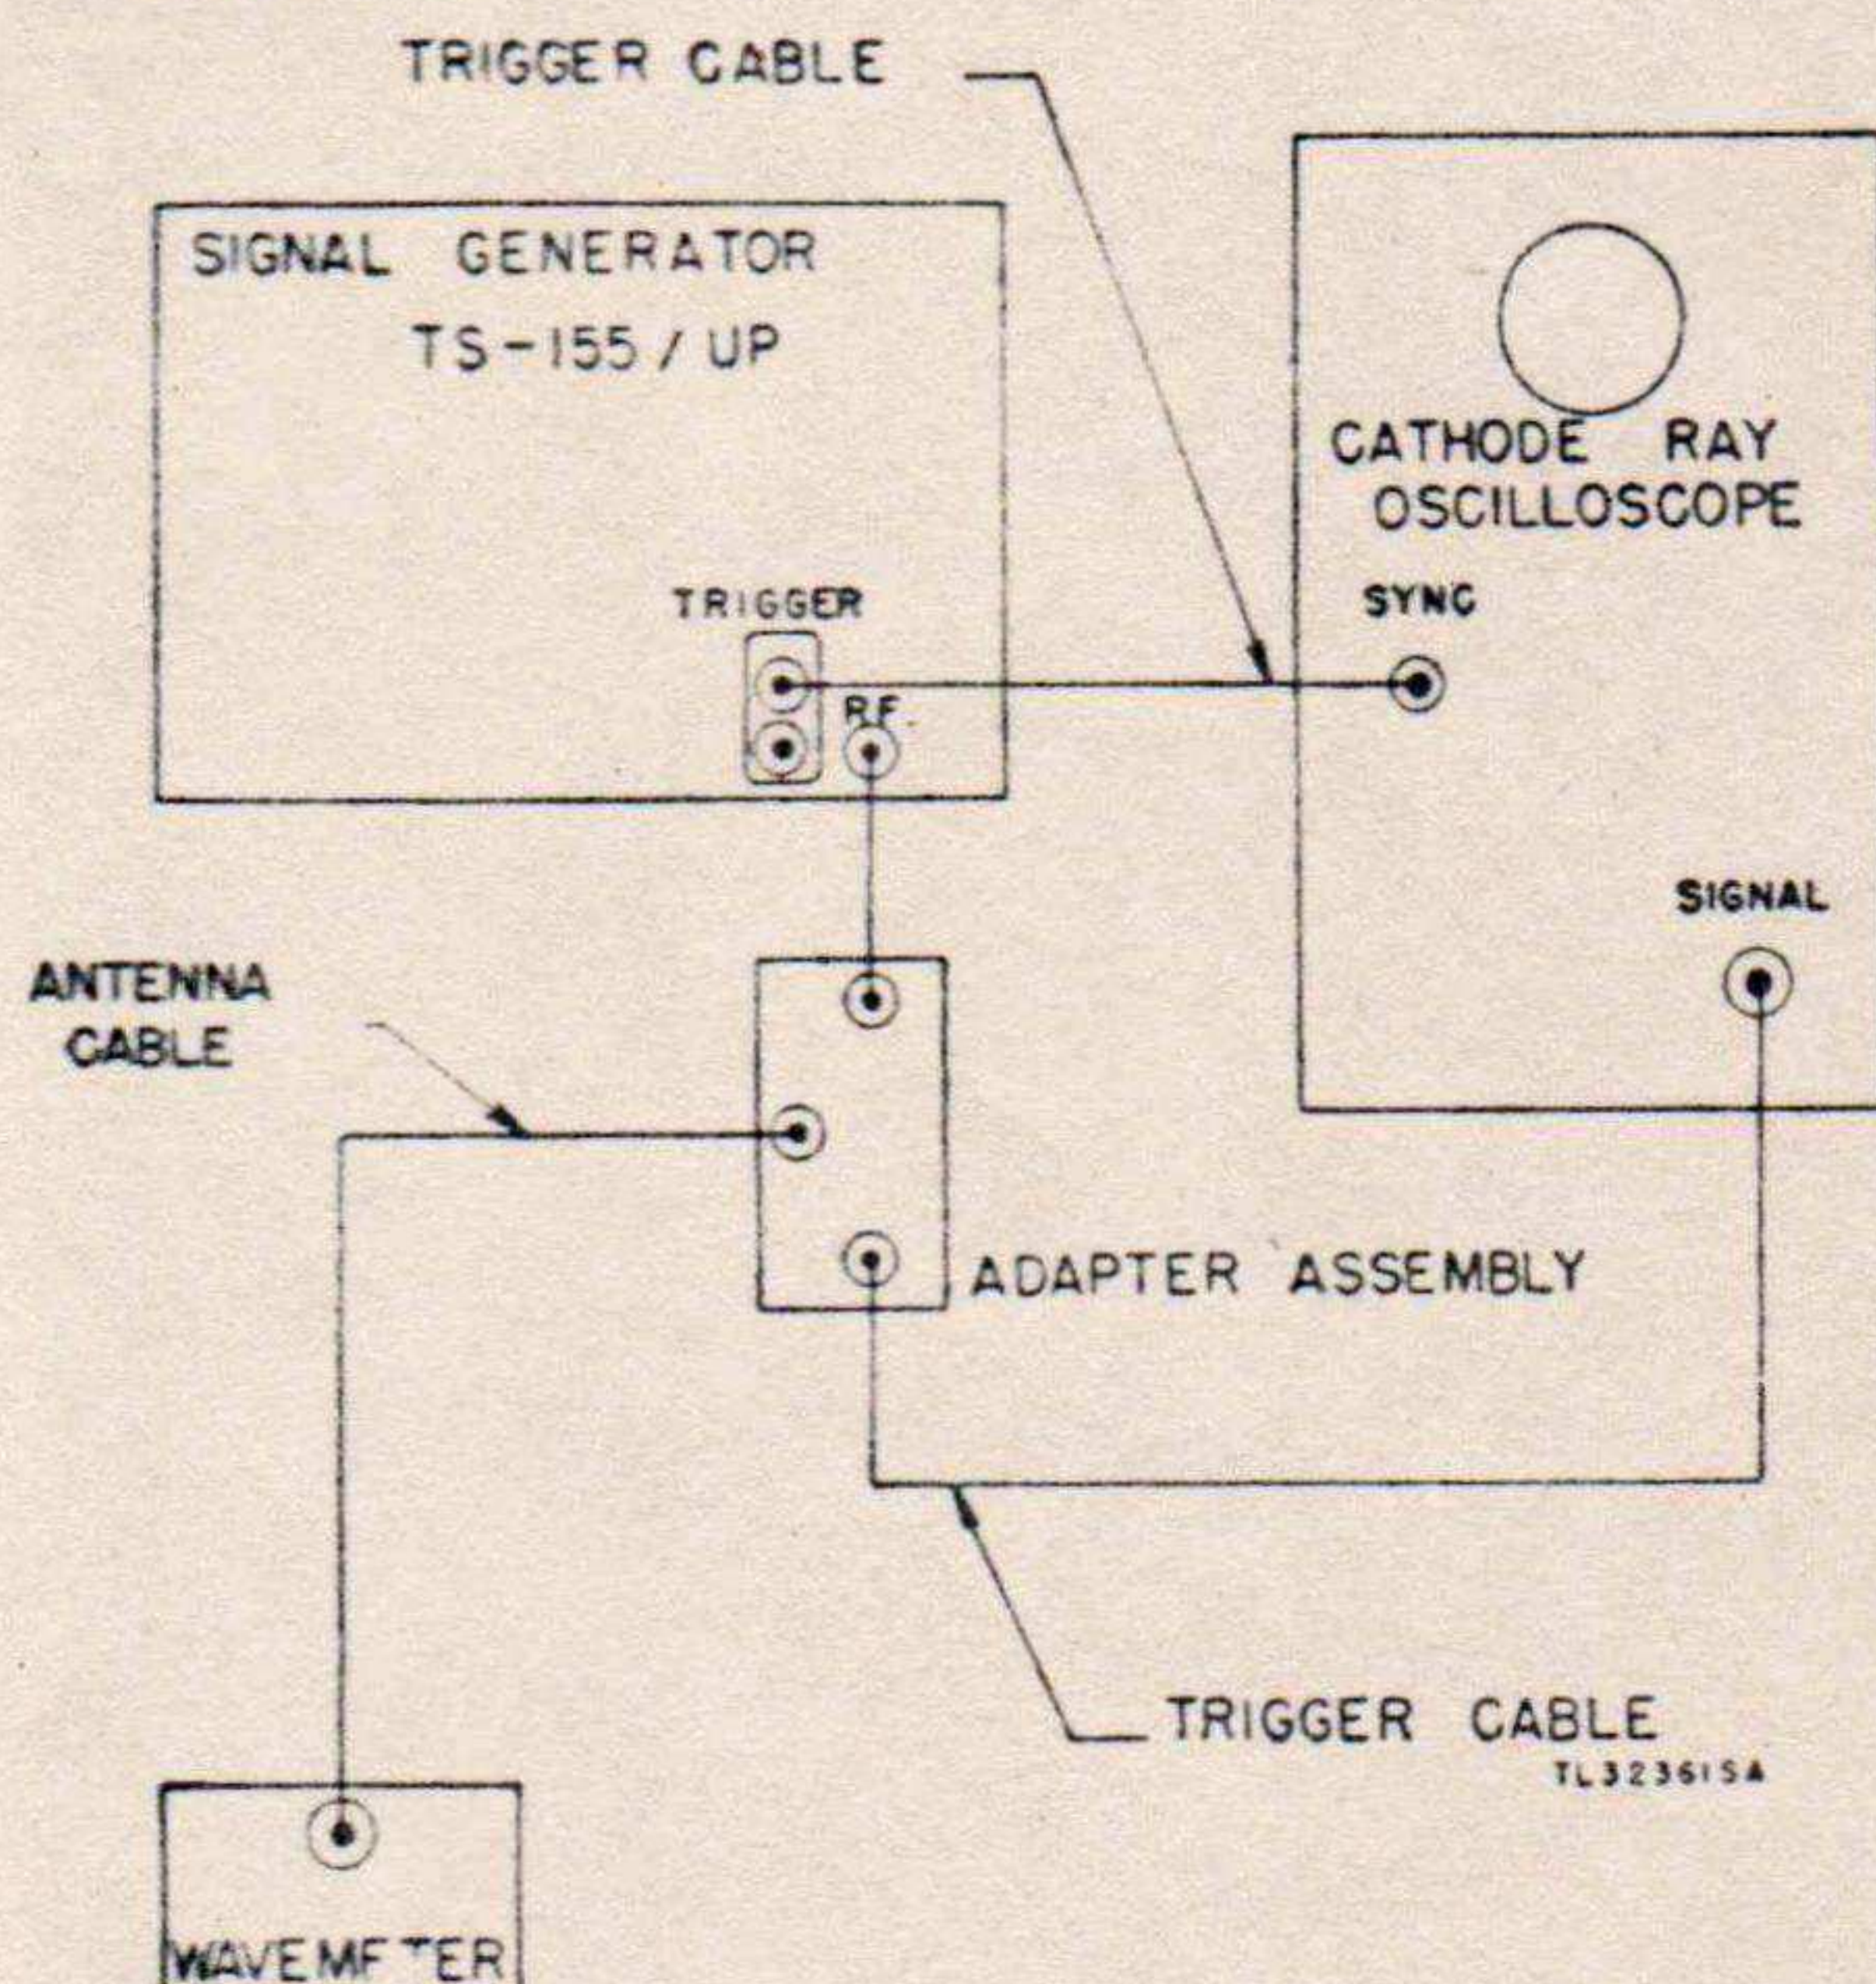

Figure 35. Adapter assembly connections, block diagram.
cable) between a TRIGGER jack of the signal generator and the synchronizing input terminal of the oscilloscope (fig. 35).
(4) Turn METER ZERO SET control fully clockwise.
(5) Turn R. F. TUNING control to the setting for which frequency is to be measured.
(6) Turn R. F. ATTENUATOR control clockwise to red reference mark.
(7) Set INPUT TRIGGER switch to +.
(8) Set PULSE DELAY controls to minimum delay (fully counterclockwise). Set fine PULSE DELAY (small knob) to 3.
(9) Set PULSE WIDTH control to maximum (fully clockwise).
(10) Turn POWER switch to ON and R. F. OSC switch off. Wait 3 minutes for the signal generator to warm up.
(11) Turn METER ZERO SET control until power monitor meter reads zero.
(12) Turn R. F. OSC switch to ON. With R. F. OSC OUTPUT control, set power monitor meter to read 200.
(13) Turn selector switch to INT TRIG.
c. Connect Cord CG-71/MPM (trigger cable) between Crystal Adapter UG-119/UP and the signal input terminals of the test oscilloscope (fig. 35).
e. Connect Cord CG-70/MPM (antenna cable) to the tee adapter jack at right angles to the two jacks in line (fig. 35). Connect the free end of the cable to the input of the wavemeter, echo box, or other frequency-measuring device.